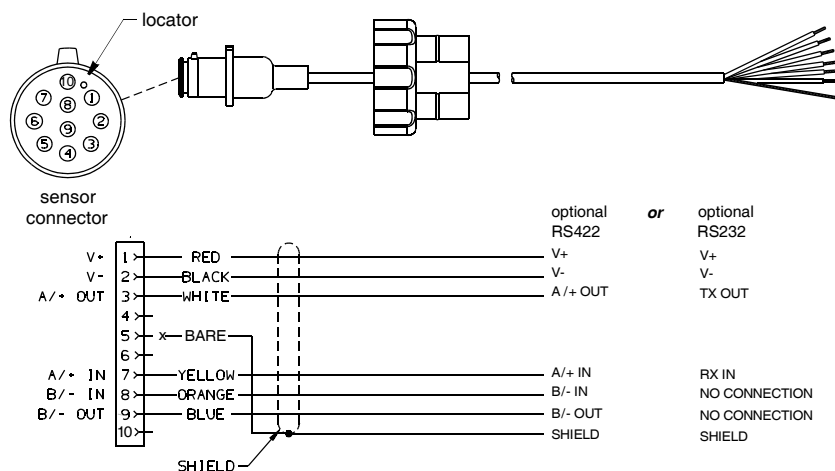

Figure 5. NMEA 0183 Sensor Cable
If your sensor cable does not have a connector on the display end, it must be hard wired. Referring to the owner's manual that came with your display, connect the colored wires as shown in Figure 5.
**CAUTION:** Your sensor has either an RS-422 or RS-232 standard. You must follow the wiring diagram in Figure 5 that matches your sensor. If the sensor is wired for the wrong standard, it will not transmit and receive data properly.
2. Strip 60 mm (2-1/2") of the outer jacket and foil shielding from the cut end of the cable (Figure 5).